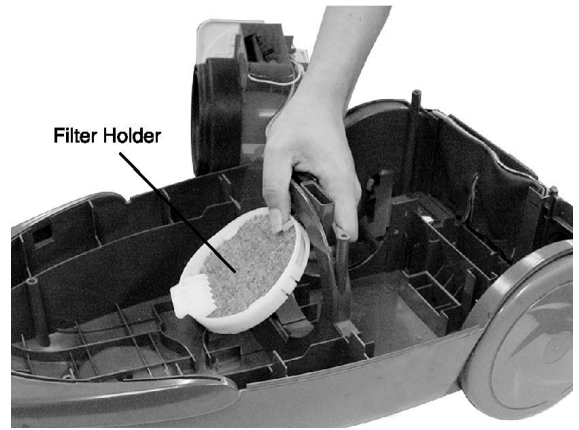

Fig.13
12. Remove the Filter Holder from behind. (Fig.13)